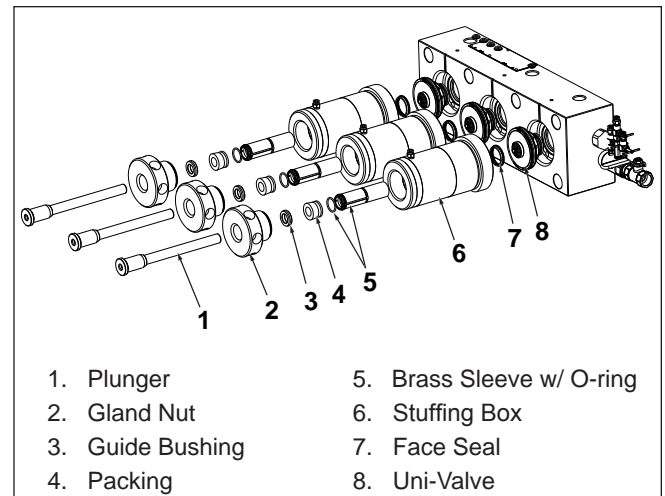
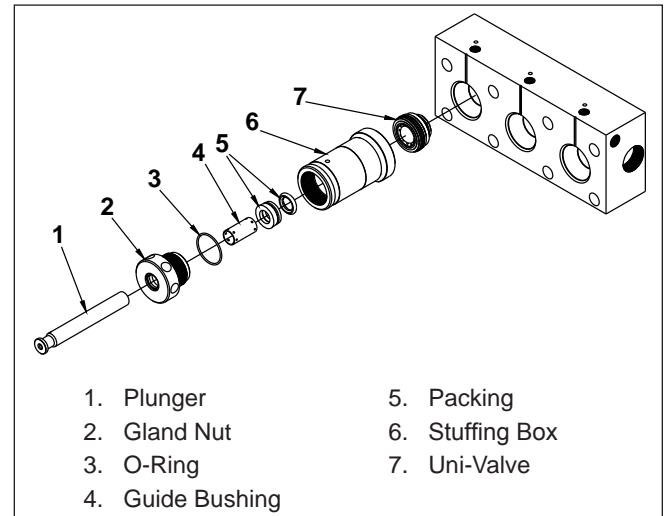

Figure 54: 40K Fluid End (Some Components Not Shown).
Figure 55: 15K/20K Fluid End (Some Components Not Shown).
Note: On 40K fluid ends, the brass sleeve (Figure 54) inside the stuffing box does not need to be removed unless the plunger shows evidence of rubbing on the sleeve.
3. Place the new packing and guide bushing onto the plunger. Orient the packing as shown in (Figure 54) for 15K/20K and (Figure 55) for 40K.